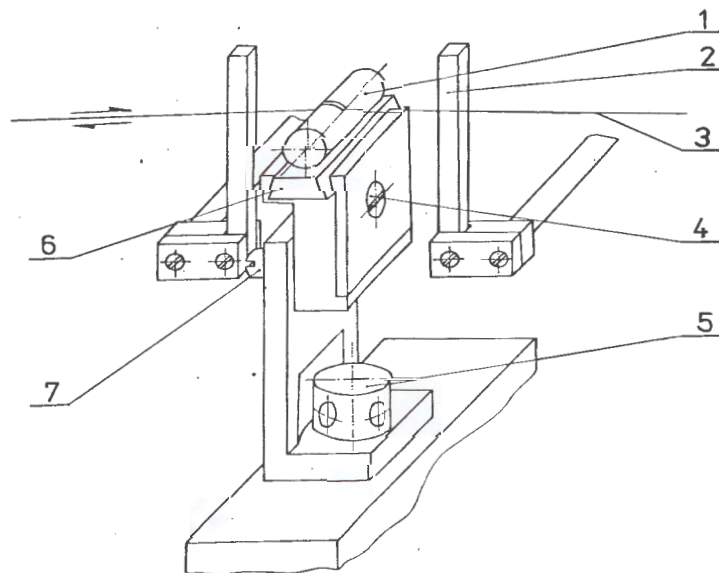
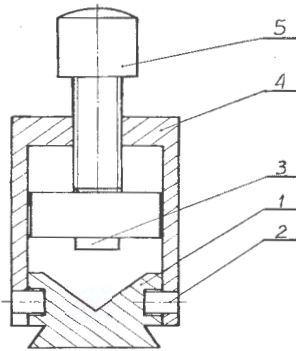

fig 5
fig 6
2.3.6. The cutting stretch of the wire is extended between two pulleys placed in the right and left corner of the frame. The exact working portion is carried by two guide bars (2) (see fig.5 point 2.4.6.) mounted on the swinging sample support. This design perfectly fixes the wire position. In the case of the guide bars wear (although they are made of very hard material - sintered carbides), they can be turned over and work at another face surface.
Attach the sample to the sample support using a special low temperature glue delivered together with the saw as consumable (under special request K.D.Unipress can manufacture glue of different temperature characteristics). Stick the sample to the slide-in plate of the support (see fig.5 point 2.4.6.). To avoid the wire cutting into the edges of the support, it may be necessary to mount the sample on a piece of soft material (turbax, wood, etc.). Very thin slices can be obtained if they are attached to a supporting substrate. A piece of glass should be glued to the cut surface of the sample: in the next cutting operation one obtains a slice attached to the glass. Most accurate cutting can be performed when the frame speed and the wire pressing on the sample are of very small values. Besides the above, a very important factor affecting the precision is the distance between the wire guide bars. They ought to be clamped with screwed plates as near the sample and each other as possible, even not being parallel. This condition has to be competed when cutting the thinnest slices i.e. 10 μ m thick.
The sample being cut swings up to approx. 15° left and right about the axis perpendicular to the cutting plane in the swinging motion allowing to get an even, vertical cut. The sample is attached to the support which enables to arrange the desired position of the sample. Two screws with scales are used for moving the sample along two perpendicular axes with the accuracy of $\pm 5\mu\text{m}$ along the horizontal axis and $\pm 100\mu\text{m}$ along the vertical one. The angular adjustment of the sample position can be accomplished in two planes, by loosening clamp screws (4), (7) (see fig.5) and tightening them again after the required sample rearrangement. Loosen screw (4) and place the slide-in plate in the support: then tighten it. Loosen screws (7) and (5) and orient the sample as desired. Using the micrometric screws move the sample to the desired position for cutting.
You can place the sample in a little vice (fig.6) instead of attaching it to the support as well. Change the V-block (6) (fig.5) on the little vice. Place the sample on a special V-block (1) (fig.6) and hold down it with the press bolt (5). Remember that the end of the sample you will cut should protrude from the special V-block (1).